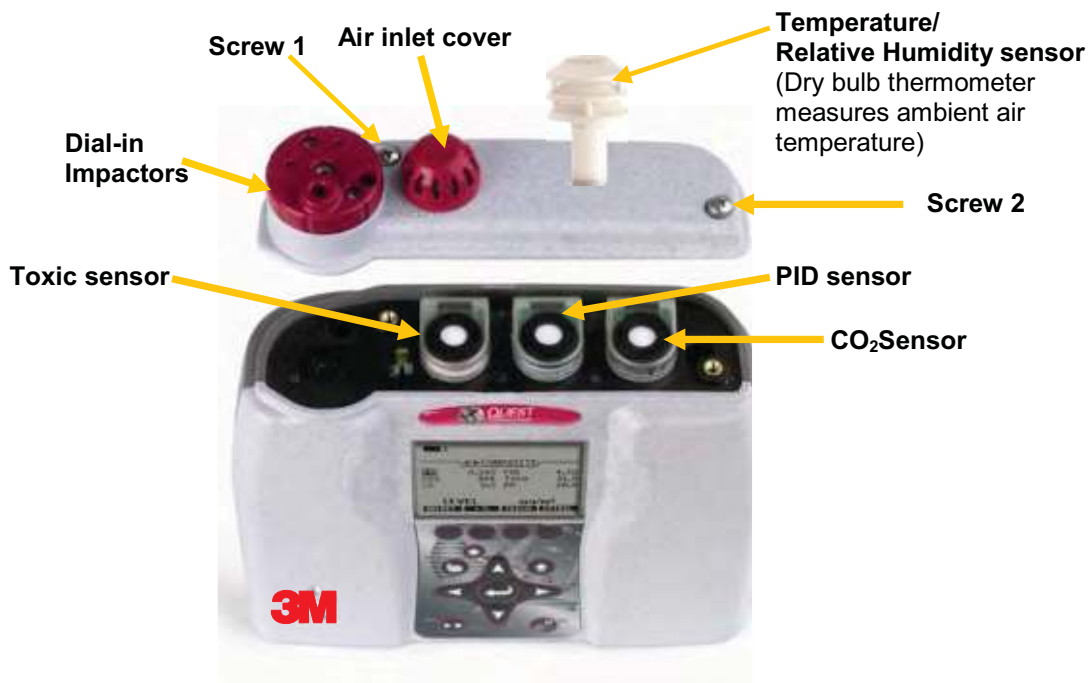

Figure 4-2: Sensors' locations
2. Lift the cover off and set aside. (The location of the sensors is indicated in Figure 4-2.)